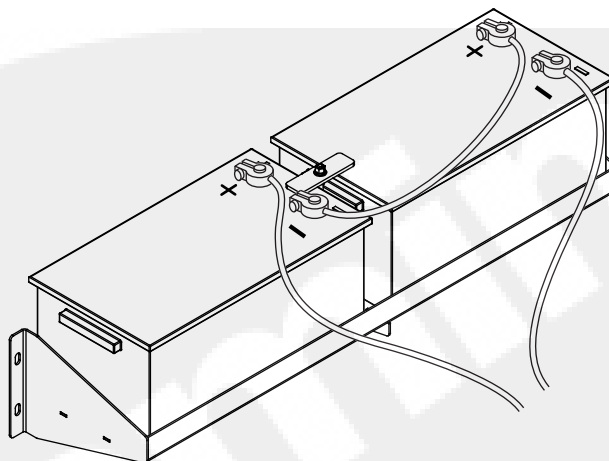

Figure 4-10 Proper series battery connection - 24 VDC
4. As shown in Figure 4-10, ensure that the batteries are configured properly for 24 VDC standard operations.